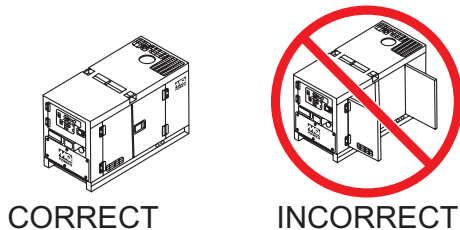

Figure 29. Engine Enclosure Doors
3. Close all engine enclosure doors (Figure 29).